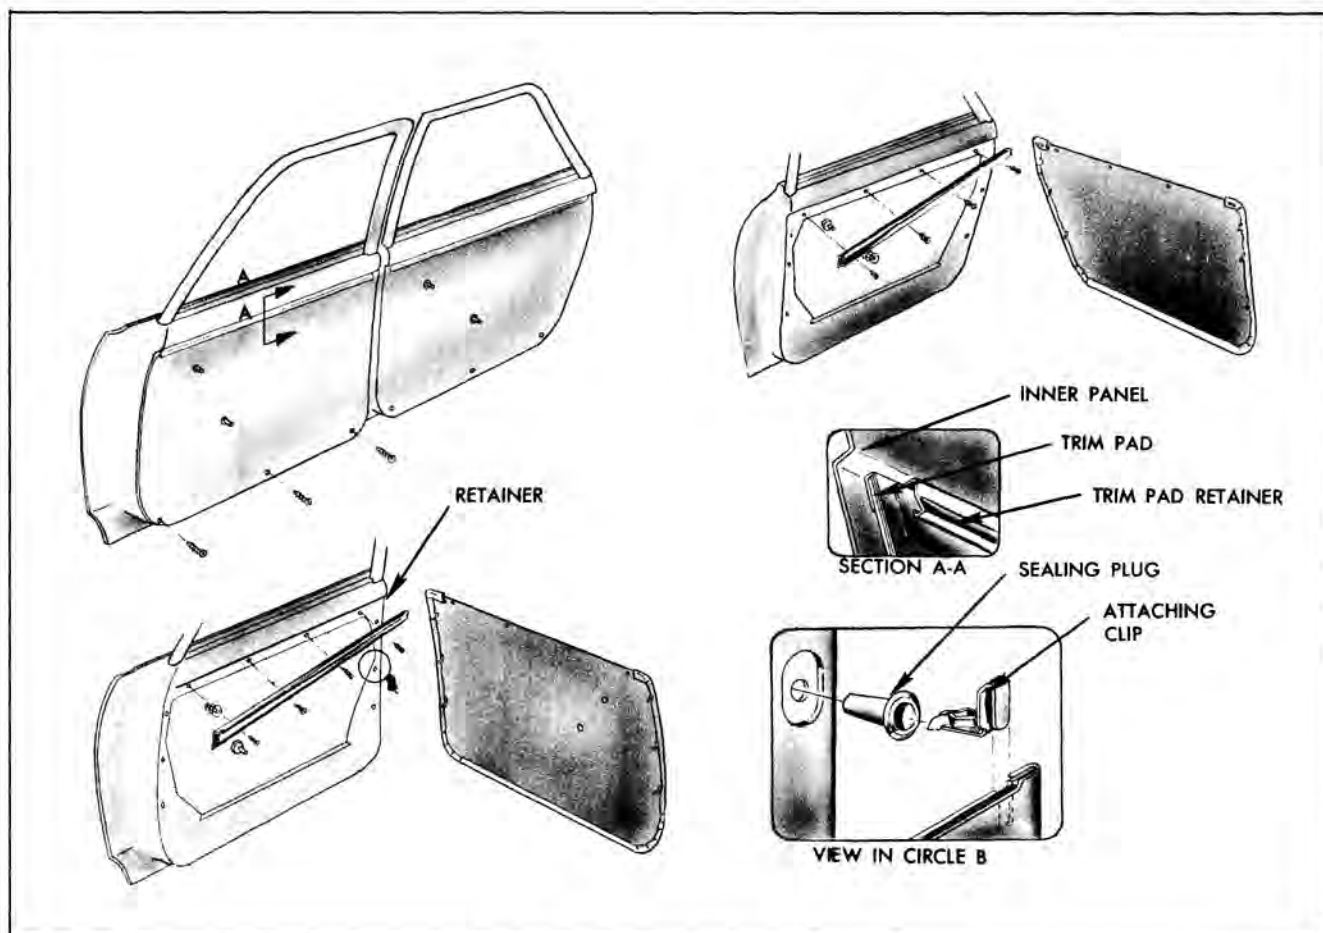

Fig. 16-321 Door Trim Pad Assemblies
3. Carefully insert Tool J-6335, or a suitable flat-bladed tool, between door trim assembly and door inner panel at retaining clip locations and disengage clips from retaining plugs. (Fig. 16-321)